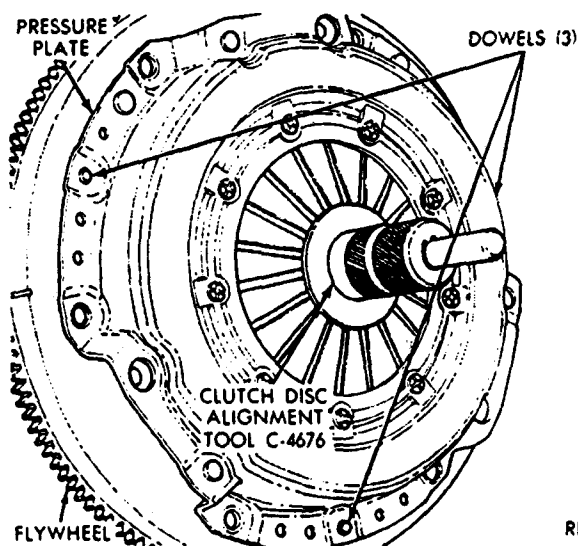

Fig. 4. A-460, A-465, and A-525 Manual Transaxle Clutch Disc Aligning Tool
(1) Remove or install transaxle. See "Group 21, A-460, A-465, and A-525 Manual Transaxle," for procedure.
(2) Mark clutch cover and flywheel, to maintain their same relative positions when reinstalling clutch assembly.
(3) Insert clutch disc aligning tool C-4676 through the clutch disc hub to prevent the clutch disc from falling and damaging the facings (Fig. 4).